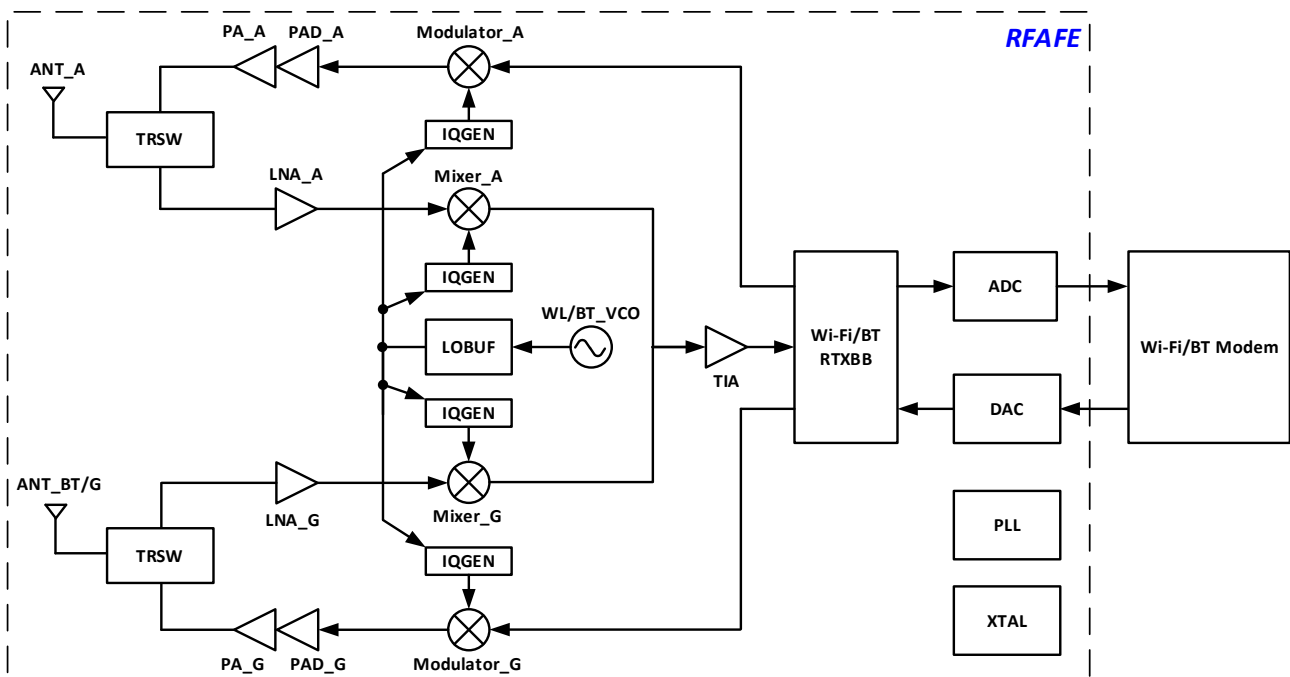

Figure 3-5 RF block diagram
The Radio Frequency (RF) block diagram of RTL8721Dx, including WLAN and BT modem, is given in Figure 3-5.